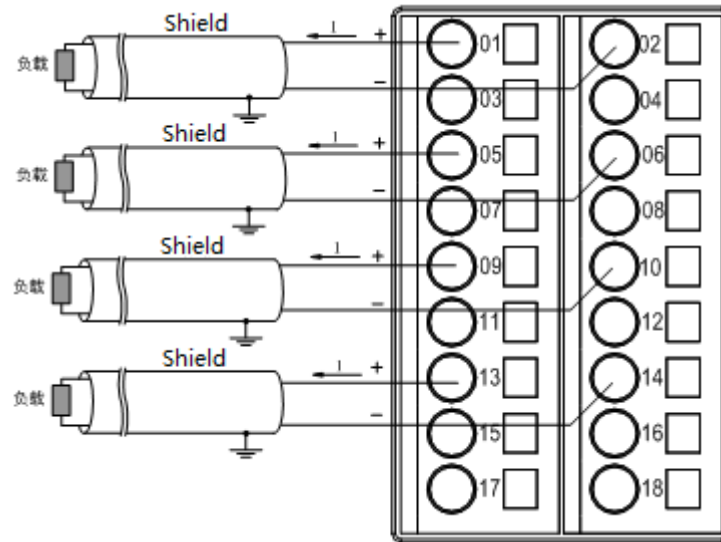

Figure 7-89 LK511 Backboard Terminal Wiring Schematic Diagram
- The 4-channel current type AO only uses the 4 terminal pairs as shown in Figure 7-89, with other terminals not used and wiring forbidden.